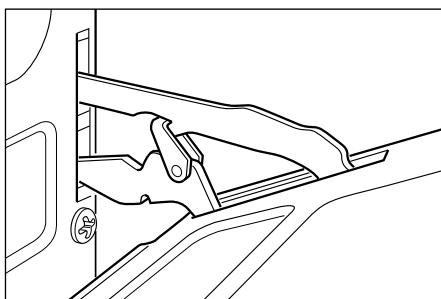

Fig.44c
- 3 Lift the oven door slightly. The notch on the bottom of the hinge will disengage (Fig. 44c).